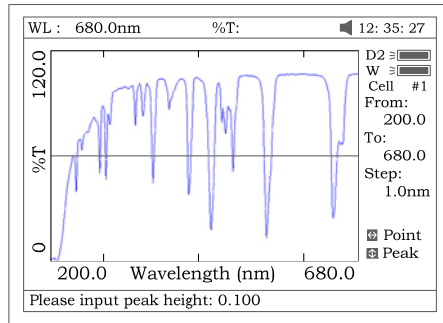
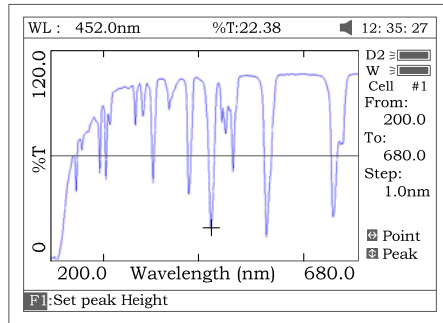

Fig 50
Fig 51
- a) *Peak to peak, press [F1] to set “peak height” and input value by pressing the numeric keypad (Fig 50). Press [V] to search the peak from left to right and press [A] to search from right to left. The value of every peak found will be displayed on the screen one at a time (Fig 51).*